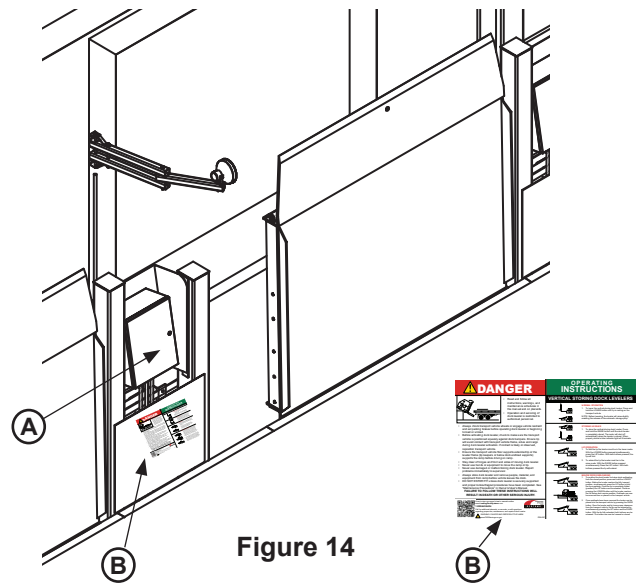

Figure 14
1. If wall-mounting, mount the control panel (A) so bottom of control panel-to-dock floor distance is approximately 48 in. (1219 mm). (See **Figure 15**.) If stanchion-mounting, mount control box to stanchion in desired location. (See **Figure 14**.)
5. Install placard (B). Make sure placard is in plain view of dock leveler and/or vehicle restraint operations. Suggested placement of placard is near control box attached to electrical conduit by using nylon cable tie. (See **Figure 14 or 15**), depending on mounting control box mounting method. .